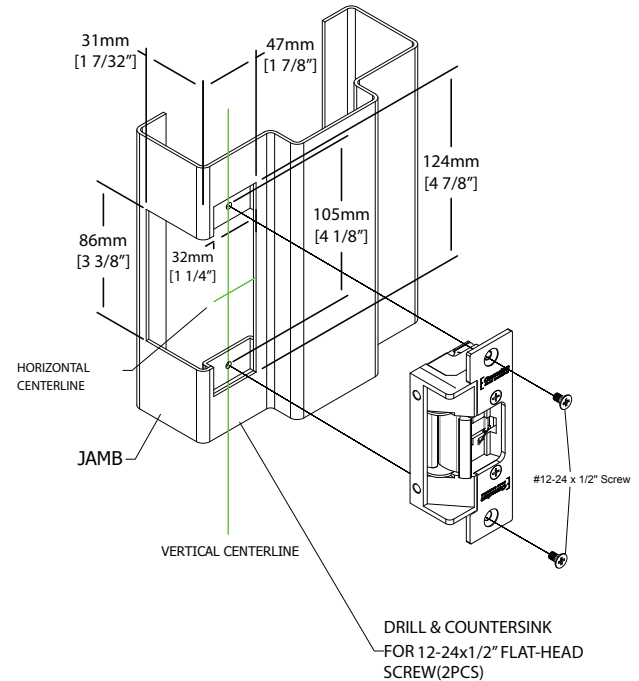

Figure 4.1
3. Using a chisel, router, or jamb saw, cut out the mortise in the jamb along the marked outline. The size of the mortise should match the size of the electric strike. Make sure to cut to the depth specified in figure 4.1.
8. Make sure that the door jamb/gate has an appropriate cutout to accommodate strike assembly, If not then, refer to the figure 4.1 and cut the jamb if required.